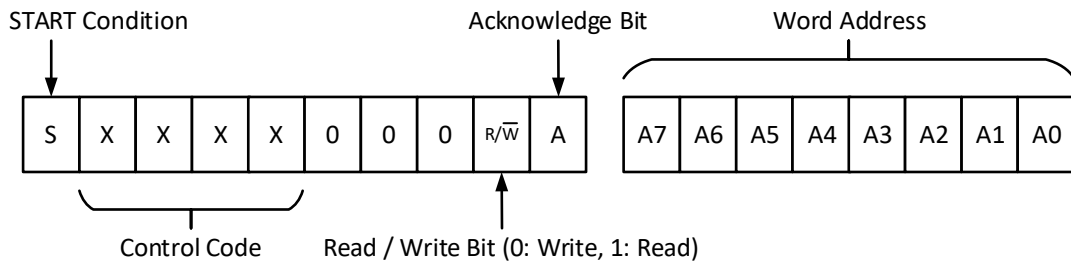

Figure 153. I²C Basic Command Structure
Each command to the I²C serial communications macrocell begins with a 'START' condition. The basic command structure of the I²C protocol is shown in Figure 153. After the 'START' condition (S), the I²C controller sends 7-bit target address followed by the RW bit. The SLG47001/03 allows multiple target addresses by programming the first four bits ('Control Code') of the 7-bit target address. Each bit in the 'Control Code' can be sourced independently from the I2C_SLA[3:0] (Reg[1467:1464]) register. When the I2C_SLA0_SEL (Reg[1468]) and the I2C_SLA1_SEL (Reg[1469]) registers are set to '1', Bit0 and Bit1 of the 'Control Code' are defined by the logic levels of GPIO0 and GPIO2 pins respectively. This gives flexibility in the addressing with multiple devices on the same I²C bus. The RW bit selects whether a read (RW = 1) or write (RW = 0) command is requested. The RW bit will be followed by an 'Acknowledge' bit (ACK), which is sent by the target device to indicate successful communication of the first byte of data.